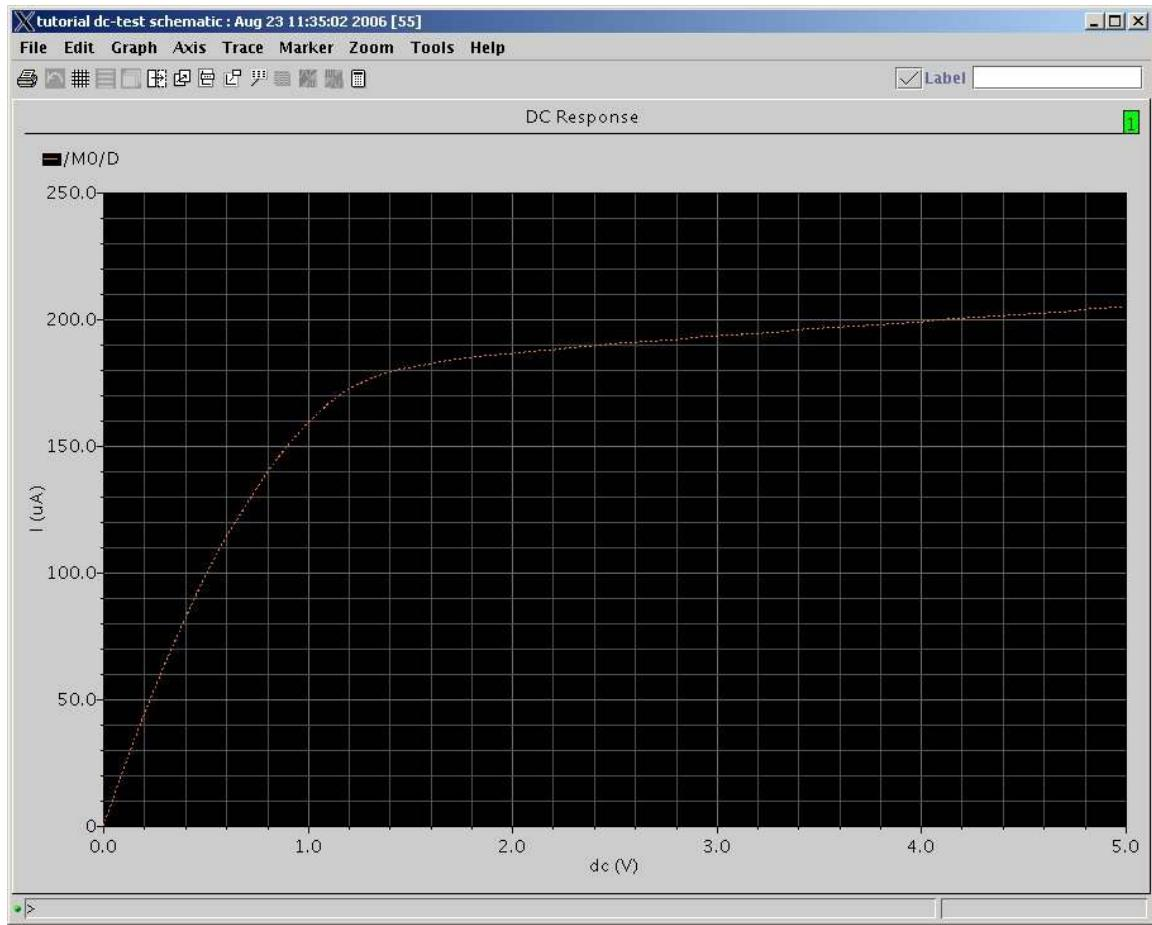

Figure 6.32: DC analysis output waveform for a single set of parameters
8. Now run the simulation. You should get a waveform output like Figure 6.32 that has a single  $I_{ds}$  curve for a 3v gate voltage ( $V_{gs}$ ) and a DC sweep from 0v to 5v on  $V_{ds}$ .